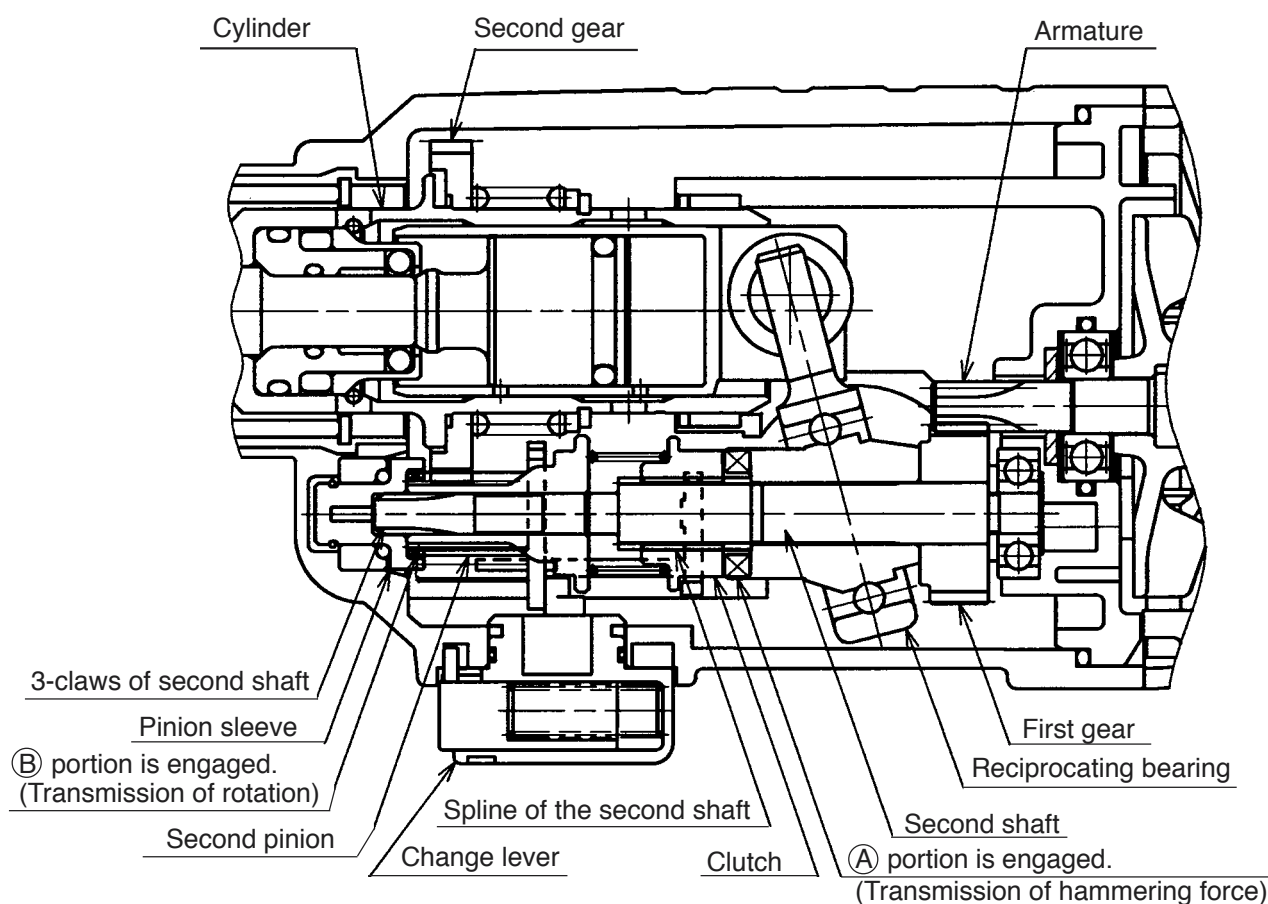

Fig. 5
(1) Rotation and hammering (Fig. 5)